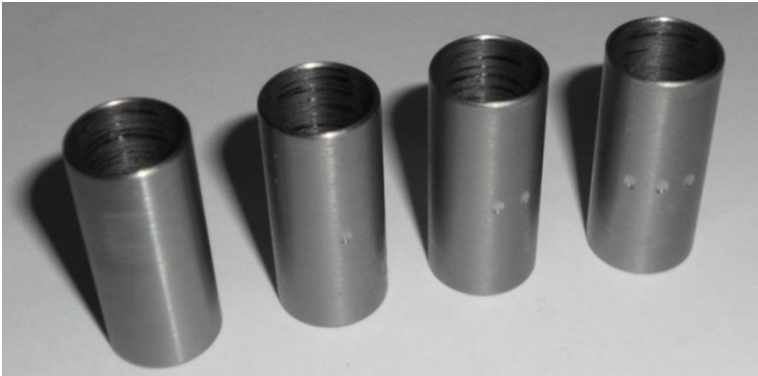

Figure 127 – Crankcase Dowels
- Fit the hollow dowels to one crankcase half in the positions arrowed above. It is vital that poorly fitted dowels are not used at the crankcase join – if the dowels can be pushed in by hand then they are too loose. The correct fit is a light “tap” fit using a soft hammer. Oversize dowels are available to ensure a snug fit. These are identified by “dots” machined into them as shown in Figure 127 – the standard size has no dots then the size increases progressively up to the 3-dot dowel which is the largest size available. Experience in Australia has shown that 1-dot dowels are suitable for most overhauled engines with 2-dot and 3-dot parts being used very occasionally.